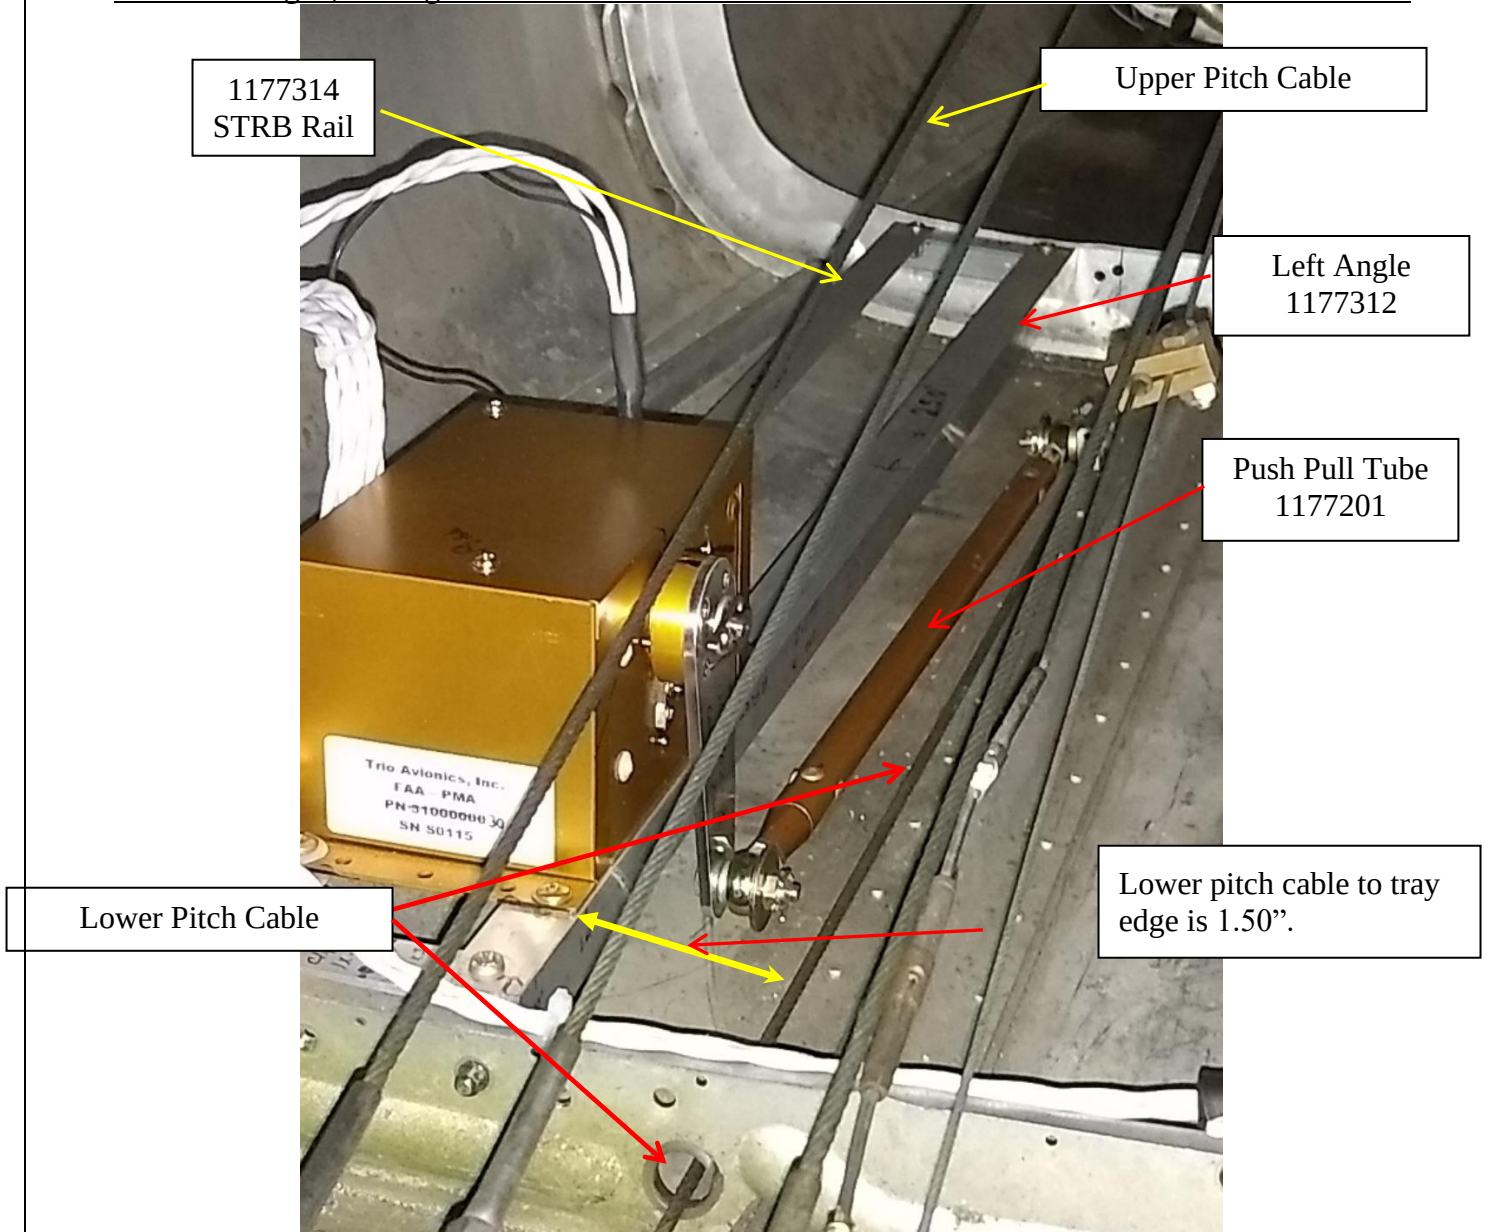

FIGURE 4-3 PITCH SERVO ASSEMBLY (SHOWN IN PITCH NEUTRAL)
5. The bracket assembly consists of Part Numbers 1177312 (LH rail), 1177314 (RH rail), one (1) 1177316 clip and one (1) 1177319 clip.
7. Locate the upper and lower pitch cables located F.S. 213.00 and F.S. 238.00 and mark them with painter's tape or equivalent. Refer to Figure 4-3.
8. Place the pitch servo tray into the proper orientation. Refer to Figures 4-3 and 4-4.